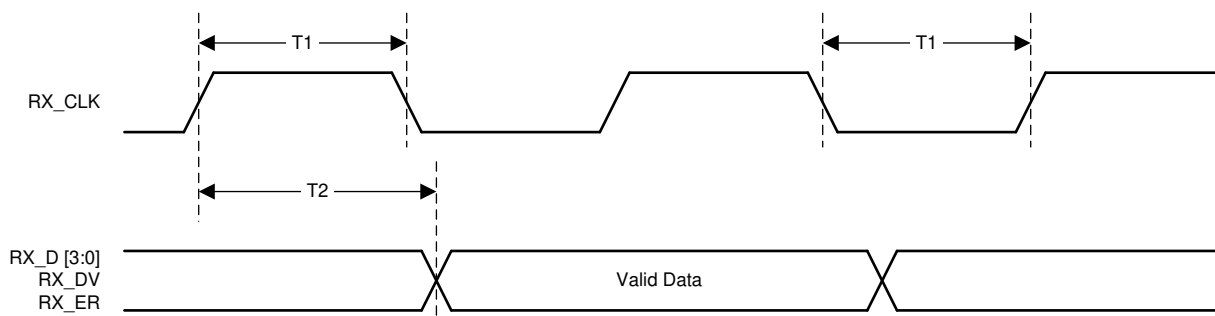

Figure 7-8. 10-Mbps Receive Timing
- (1) Ensured by production test, characterization or design.
(2) See Figure 7-8.